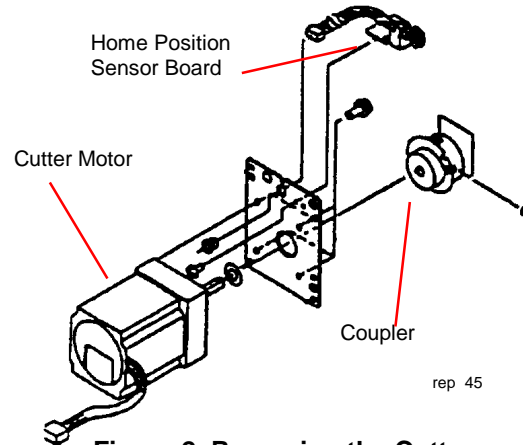

Figure 2 Removing the Cutter Motor
3. (Figure 2): Remove the screw and the Home Position Sensor Board along with its mounting bracket.